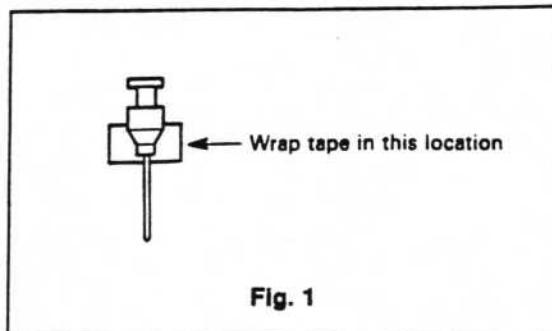

Fig. 1
- (1) To insulate the needle from the tube, wrap a piece of vinyl tape 2 - 3 times around the base of the needle as in Fig. 1.